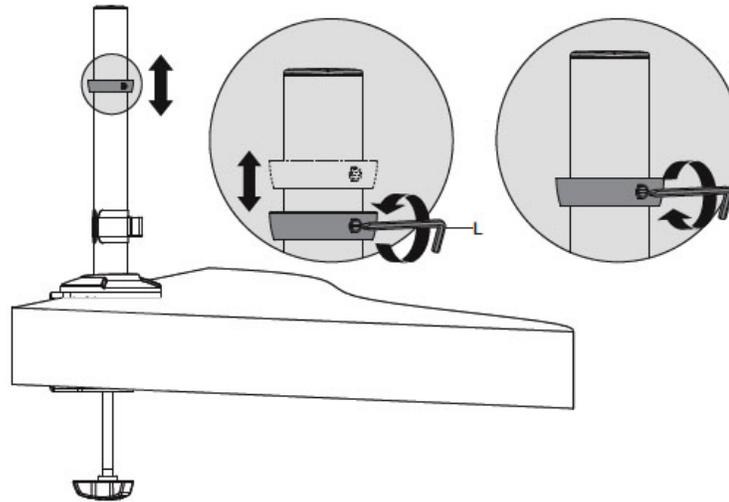

Figure 8
2. Install the Position Ring at the desired height and tighten the Hex Nut using the 3mm Allen Key (L) or a screwdriver, see Figure 8.